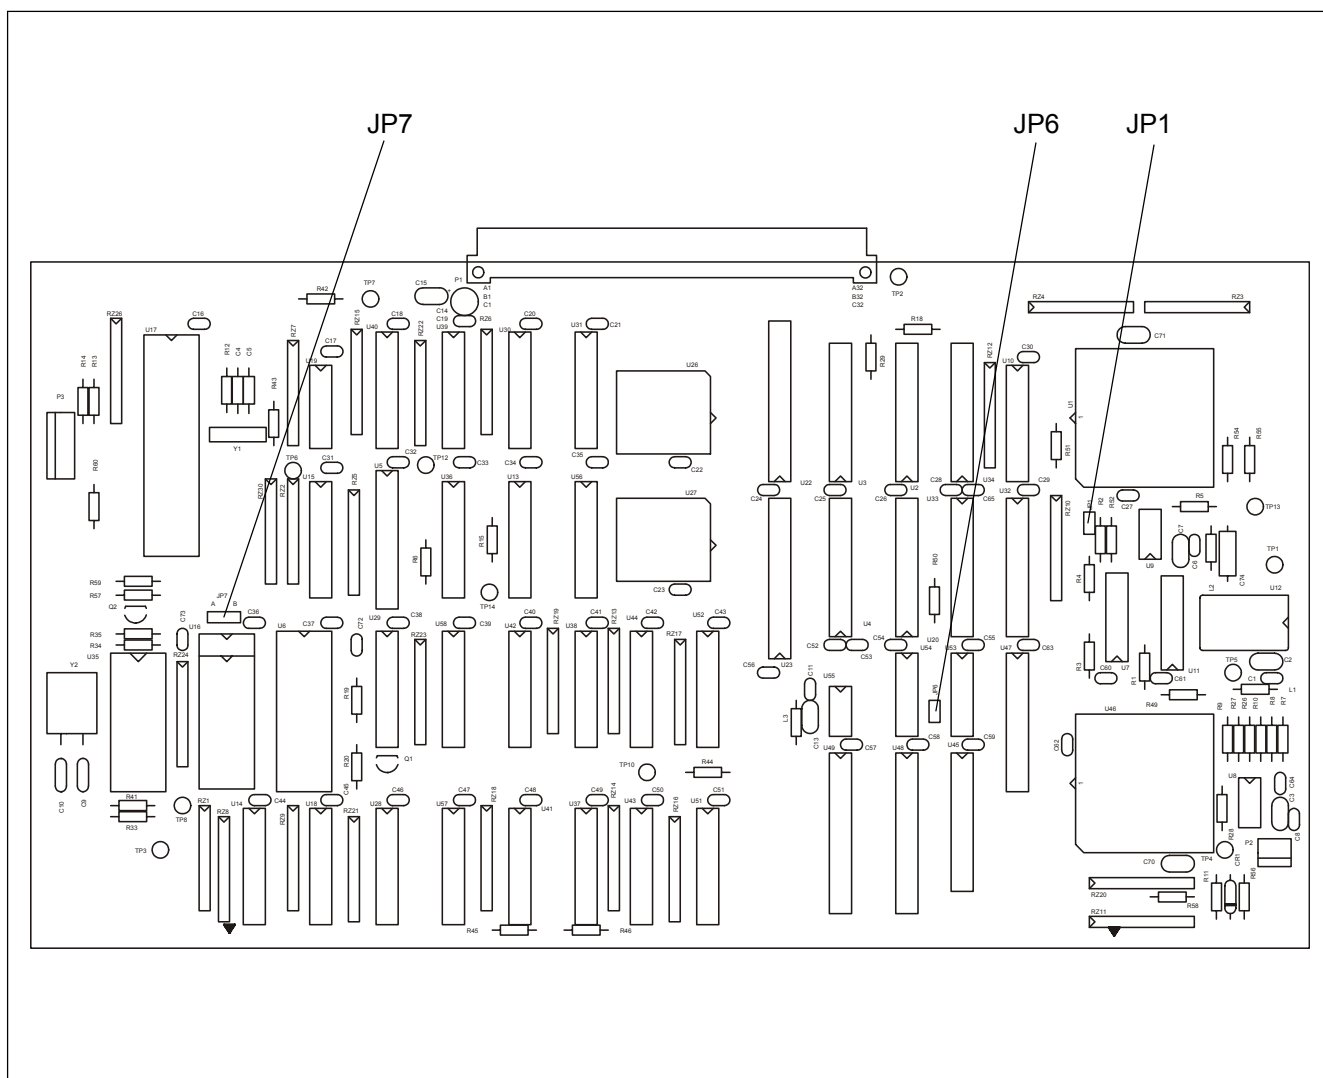
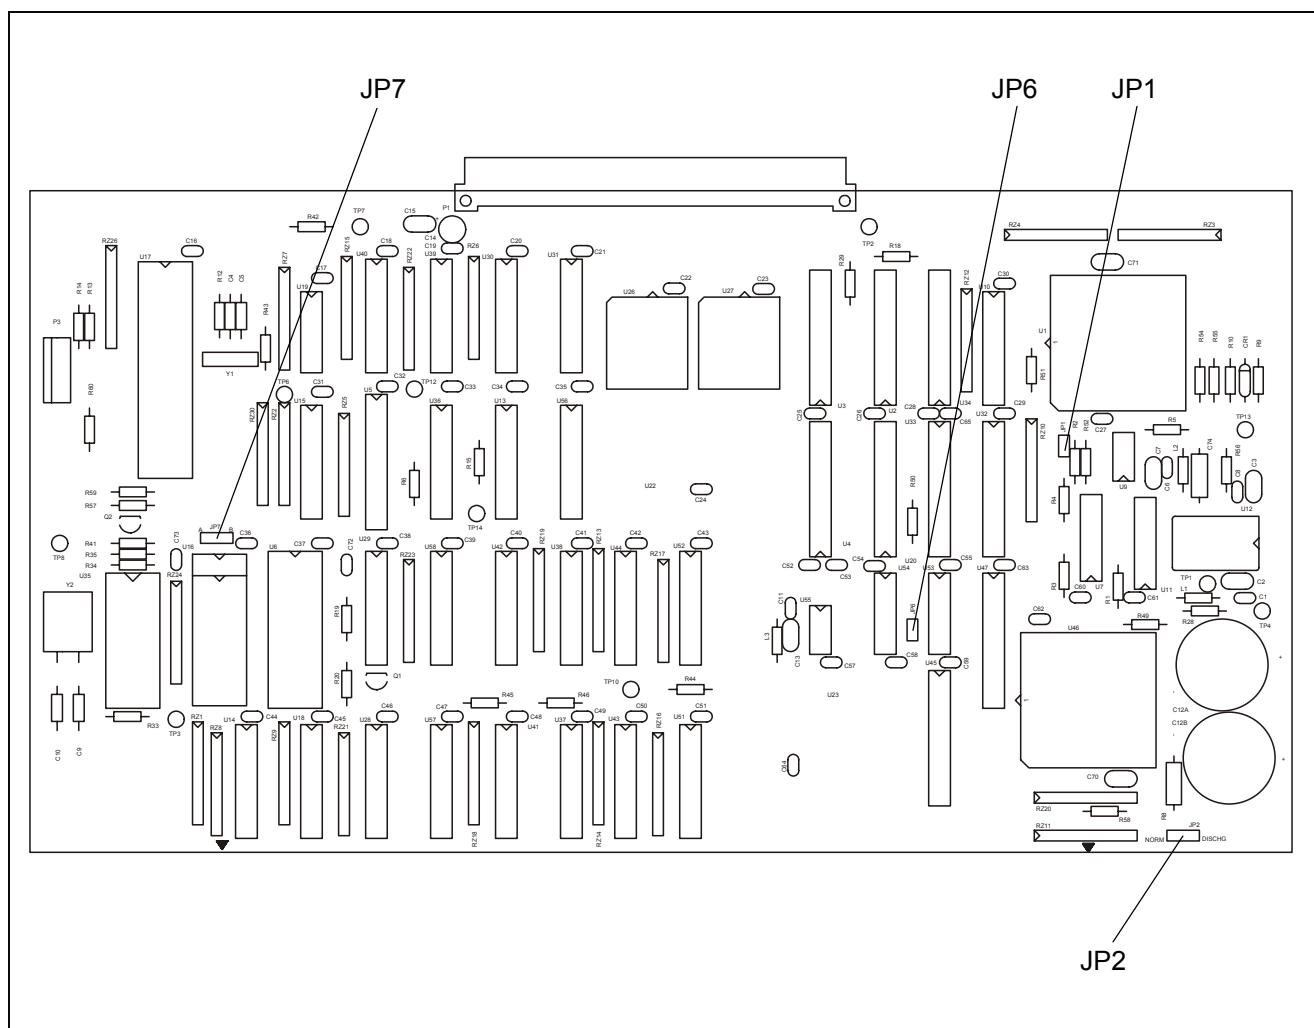
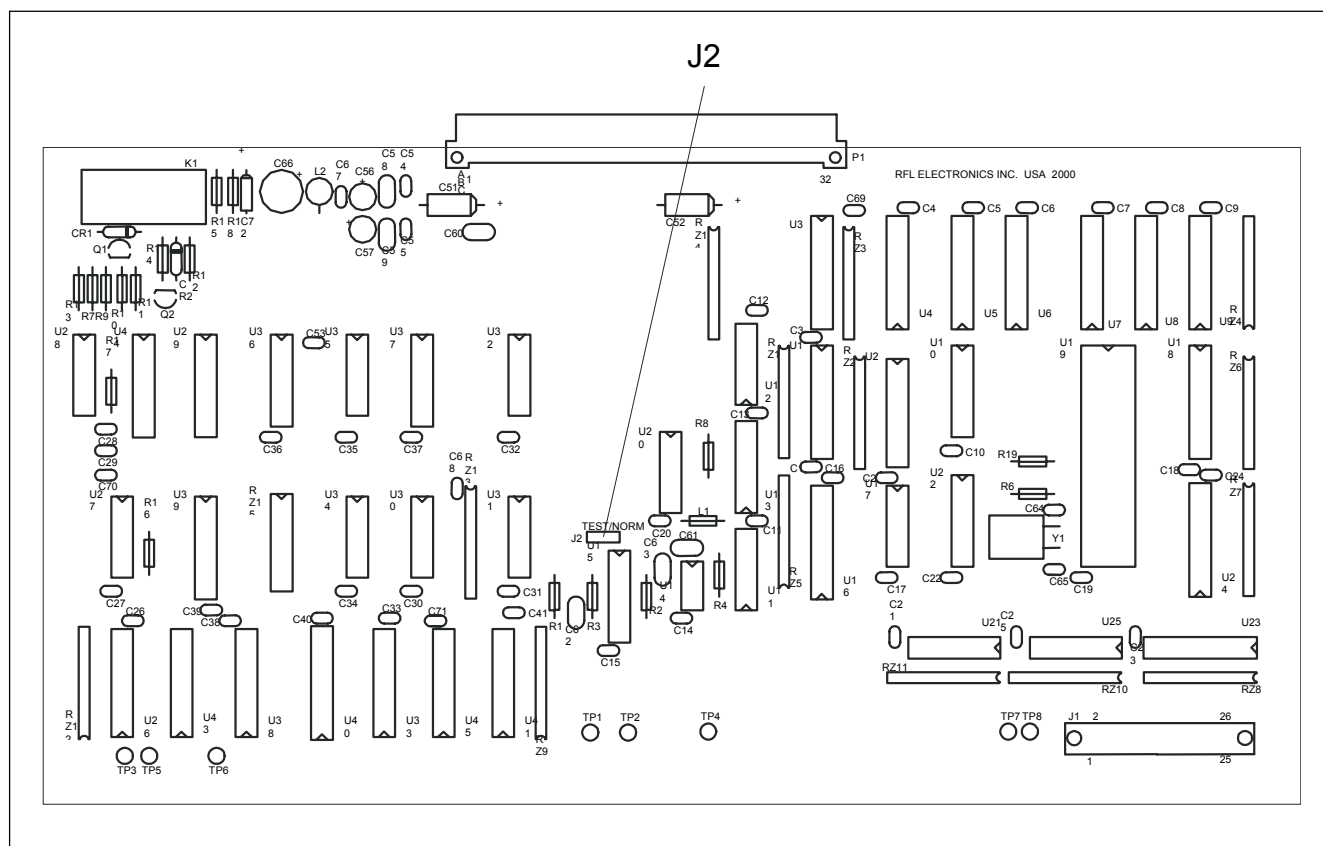

Figure 3-12. Location of jumpers on a CPU Module with battery backed RAM
Figure 3-13. Location of jumpers on a CPU Module with capacitor backed RAM
Figure 3-14. Location of jumper J2 on Driver Module
There are two types of CPU modules that can be used in the RFL 9745. One type has battery backed RAM (105025-1) with three programmable jumpers labeled JP1, JP6 and JP7. See Figure 3-12 for jumper locations. The other has capacitor backed RAM (107330-1) with four programmable jumpers labeled JP1, JP2, JP6 and JP7. See Figure 3-13 for jumper locations.
There are three versions of the narrow band Audio Communications Module. Each version uses the same basic printed circuit board but only certain portions of each board are populated with components. The two-tone version of the module has one programmable jumper as shown in Figure 3-12. The three-tone version of the module has three programmable jumpers as shown in Figure 3-13. The four-tone version of the module has four programmable jumpers as shown in Figure 3-14. Each version can be supplied with screw type terminal blocks or plug-in compression type terminal blocks. Refer to Table 3-4 for additional information.
* Parameter 061 as shown in Figure 5-1 must be set to match the J10 jumper setting on the Audio Communications module (See Figures 3-12 or 3-13 for location). If jumper J10 is in position A, set Parameter 061 to “A”. If jumper J10 is in position B, set Parameter 061 to “B”. If the audio board has only two tones, jumper J10 cannot be set by the user since it is hard wired at the factory. In this case, Parameter 061 must be set to “B”.